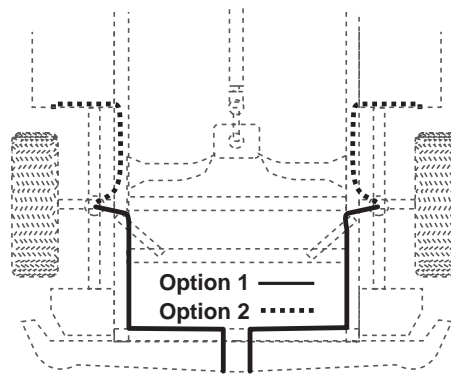

fig. 34
6. Route the air line along the frame to the air fitting on the air spring (Fig. 34). Keep AT LEAST 6" of clearance between the air line and heat sources, such as the exhaust pipes, muffler, or catalytic converter. Avoid sharp bends and edges. Use the plastic tie straps to secure the air line to fixed, non-moving points along the chassis. Be sure that the tie straps are tight, but do not pinch the air line. Leave at least 2" of slack to allow for any movement that might pull on the air line.